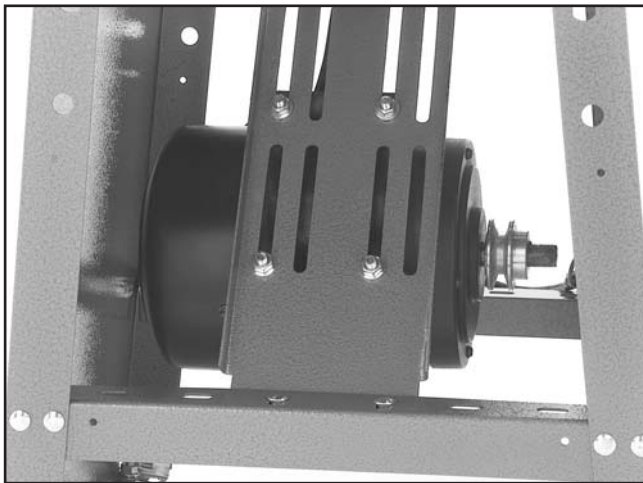

Figure 13. Motor mounted to motor mount.
2. Fasten the motor onto the motor mount (as shown in **Figure 13**) with the hex bolts, hex nuts, lock washers and flat washers. The washers should be placed on both sides of the motor mount.